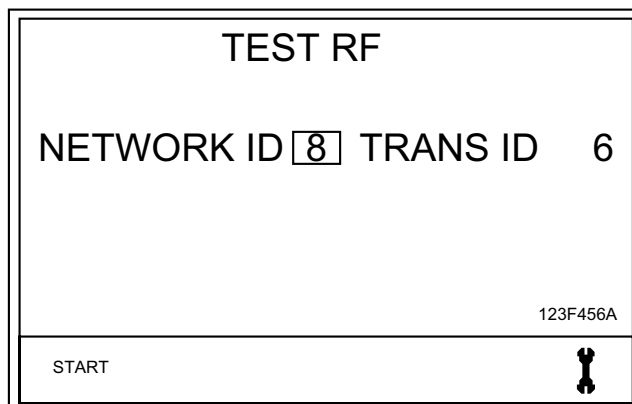

FIG. 7
4. Use RIGHT ARROW to move cursor over START (FIG. 7).